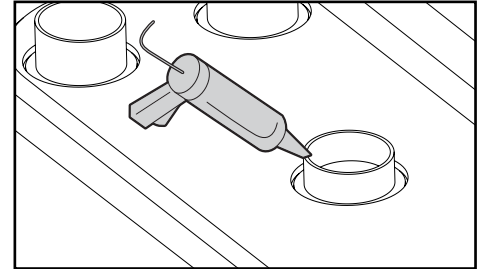

FIGURE 2. Apply construction adhesive to bathtub feet. (Above floor rough-in feet shown)
- b. Apply construction adhesive to all feet and install bathtub into alcove (Fig 2).